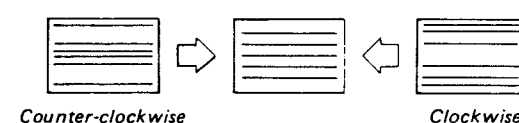

Fig. 29-3
4. Adjust V. LIN GAIN by turning DA board RV22 as shown in Fig. 29-3.
6. UNDER SCAN switch (front panel (L)) UNDER ()